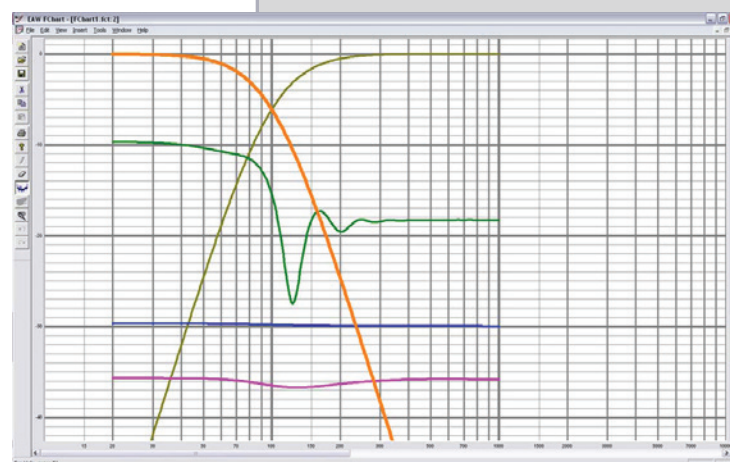

Figure 4
O.K., let's assume adjustments to this based upon what the sound person is hearing at the mix position (100 feet away). **Figure 4** shows the result of that alignment.